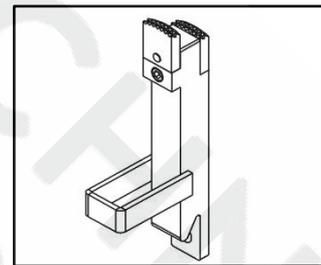

Fig 9 Extension jaw holder
- 4 Extension jaw holder, 4pieces (Fig 9)